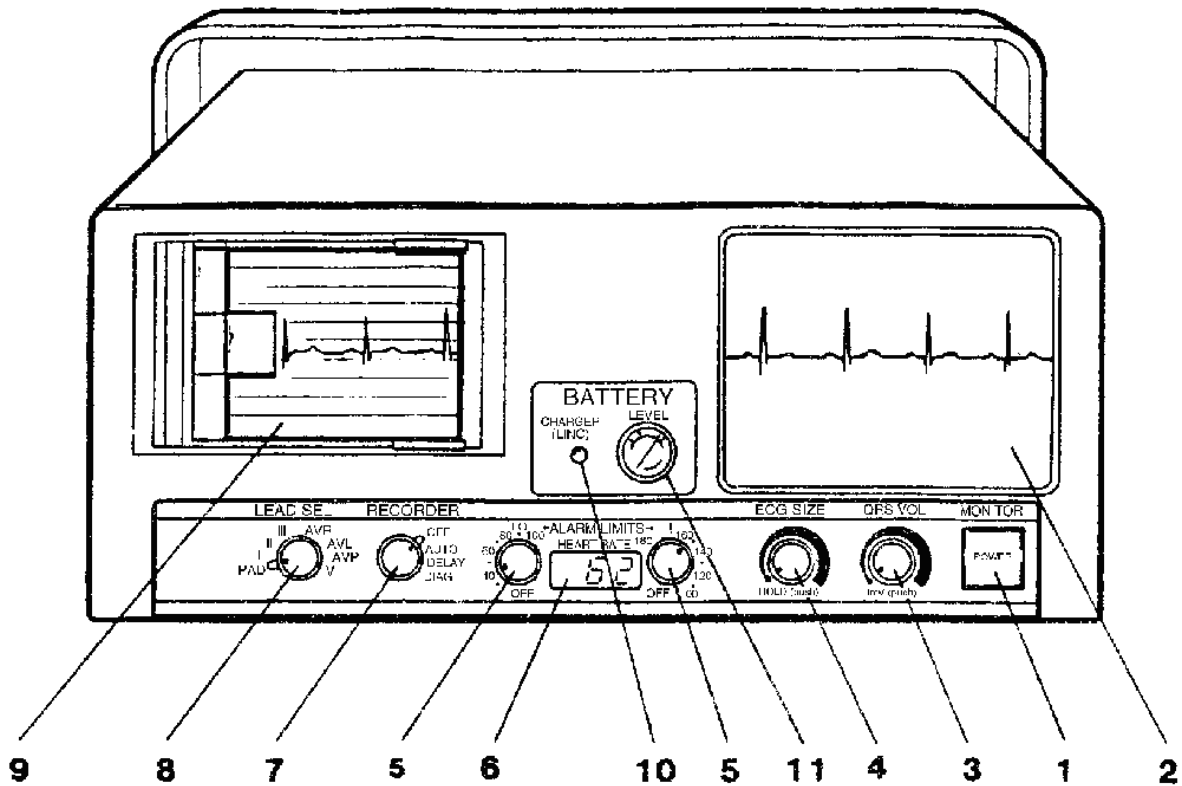

Figure 1-1. Monitor controls and status indicators.
Review the functions of the following controls and status indicators to ensure that you understand their purpose and how they function. Refer to figures 1-1 through 1-6.
NOTE: The numbers in parenthesis correspond to the numbers in figures 1-1 through 1-6.
a. **Controls and Status Indicators for the Monitor.** Refer to figure 1-1 for paragraphs (1) through (11).
(1) Power control (1). The power control is the green push button switch for the main power to the monitor module. The power light is lit when the unit is on. When the monitor module is connected to the direct current (dc) defibrillator, turn the monitor on by depressing the defibrillator power switch. This is done to save operator time in an emergency situation.
(2) Electrocardiograph monitor display (2). The nonfade electrocardiograph (ECG) display moves from right to left.
(3) Quasi-Random Signal volume control (3). Turn the Quasi-Random Signal (QRS) volume control (3) switch clockwise to increase the volume of the systole beeper. For a 1 millivolt (mv) signal, push the switch and release it to activate the calibration signal on the ECG monitor and chart recorder.
(4) Electrocardiograph size control (4). Turn the control clockwise to increase the amplitude. Push the button to hold or freeze the trace on the monitor scope.
(5) Heart rate alarm control (5). Two rotary switches control the setting of the heart rate alarm limits. Turn the controls counter clockwise for low and clockwise for high. The Hi control provides a range of 100 to 240 beats per minute (bpm) and OFF. The Lo control provides a range of 30 to 100bpm, and OFF. When the alarm limits are exceeded, a steady tone is activated. When the chart recorder switch is in the AUTO mode, the chart recorder starts automatically and runs for 15 seconds. To deactivate the alarm system, turn both controls to OFF.